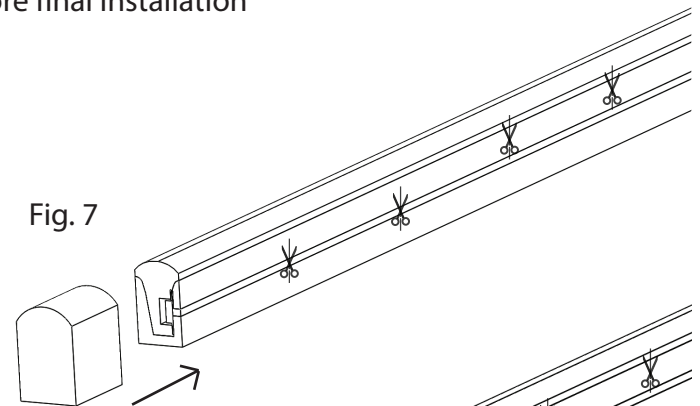

Fig. 7
8. Push the end cap over the flexible border tube, forcing any air bubbled out (Fig. 7)